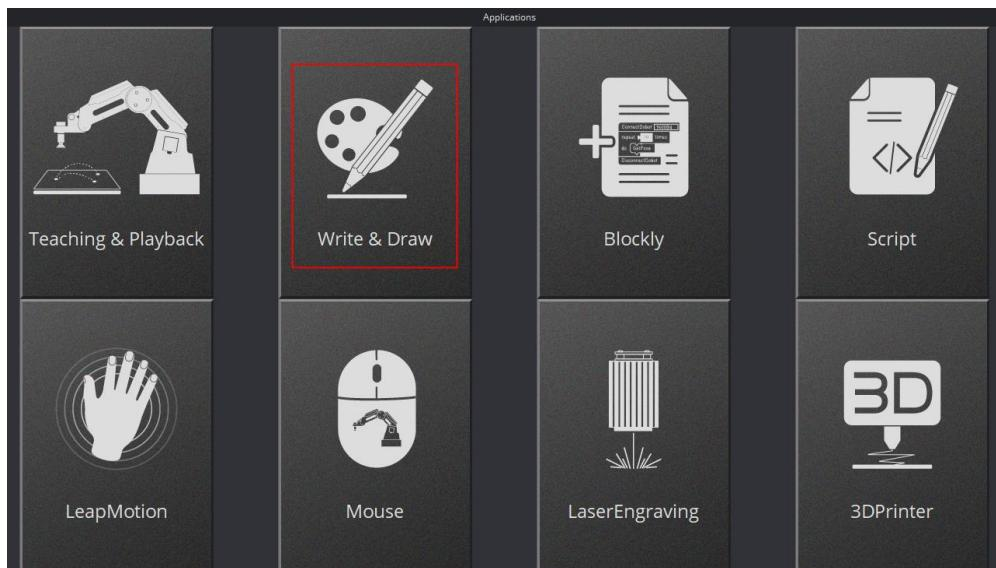

Figure 5.35 Click Write & Draw
**Step 3** Click **Write & Draw**, as shown in Figure 5.35.